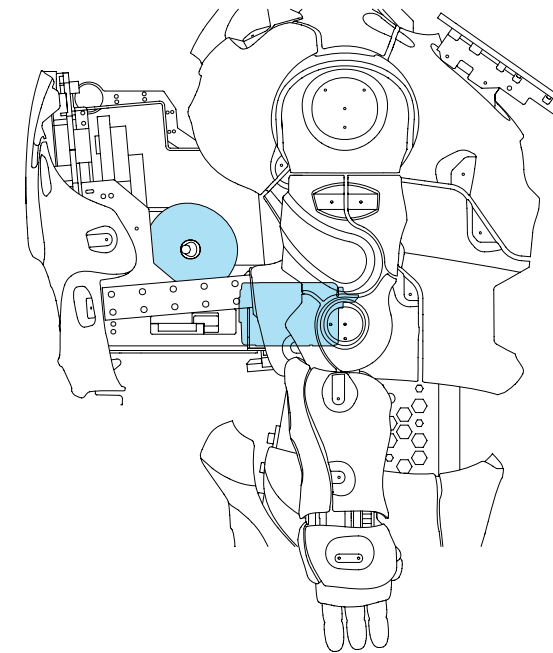

Fig. 8.4. Check printer position in the service compartment of the robot (side view of the robot)
1. Open the service compartment of the robot (see section 2.2). The printer is located on the right side relative to the rear cover, the printer position is indicated in Fig. 8.4.